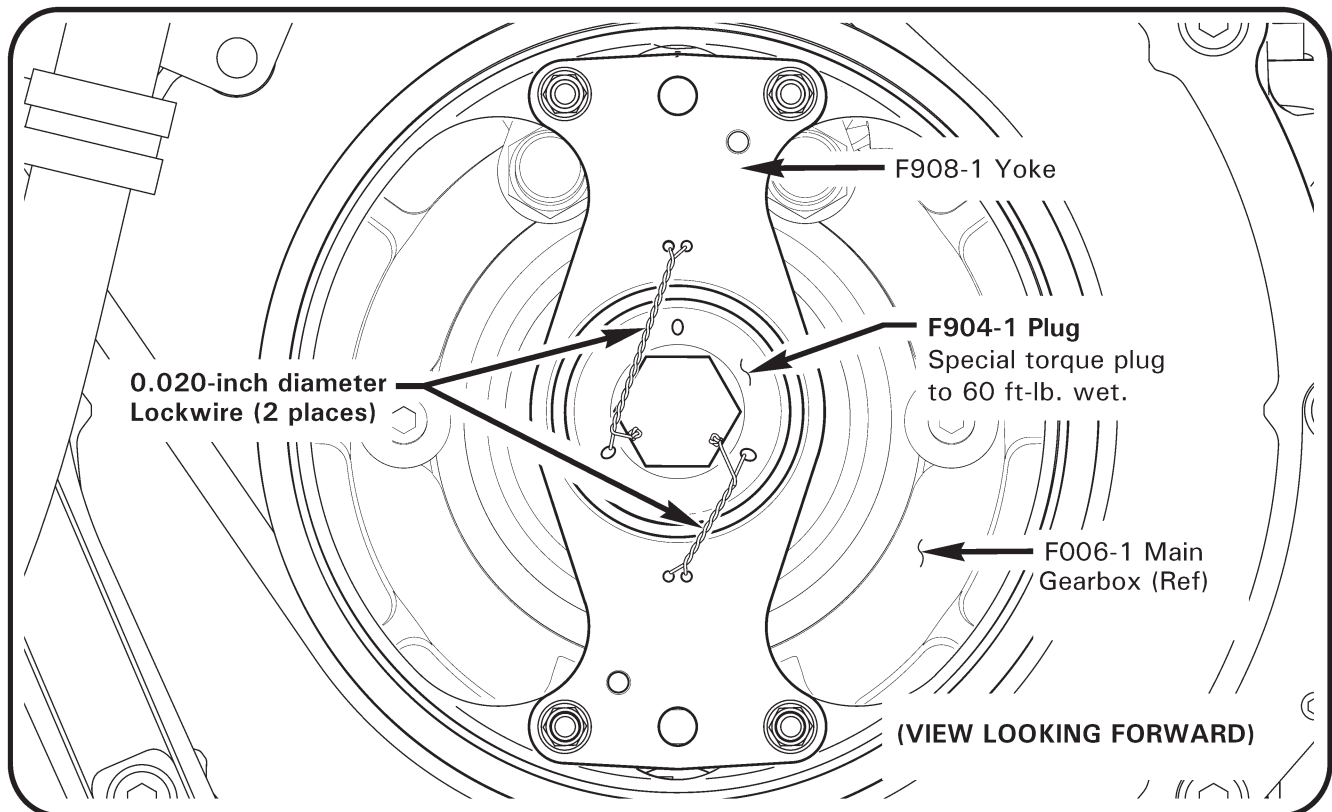

FIGURE 1
4. Refer to Figure 1. Set rotor brake. Remove and discard lockwire securing F904-1 plug to yoke and remove plug using a 3/4-inch hex-bit socket. Visually inspect forward C947-3 flex plate assembly and plug for damage. Order replacement parts from RHC Customer Service if damage is found.